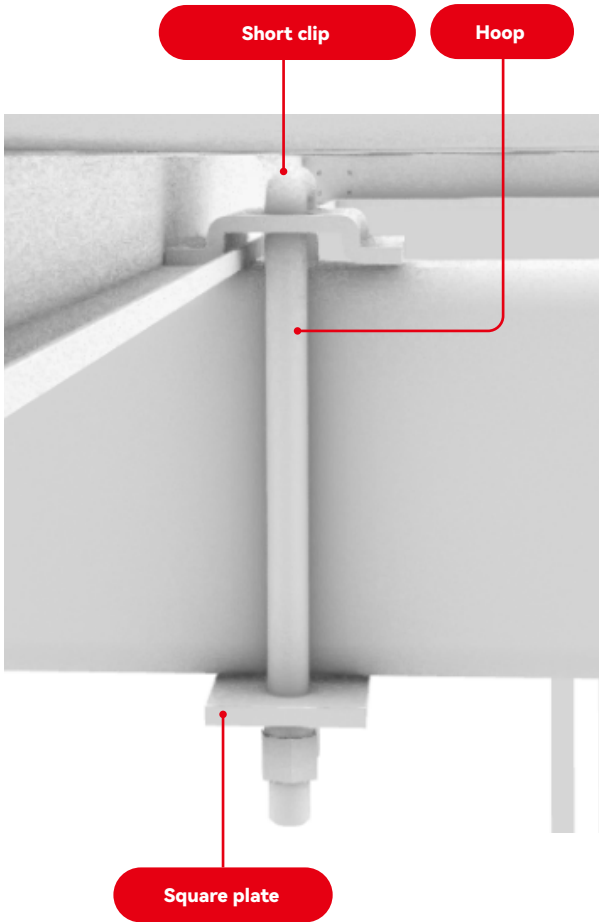
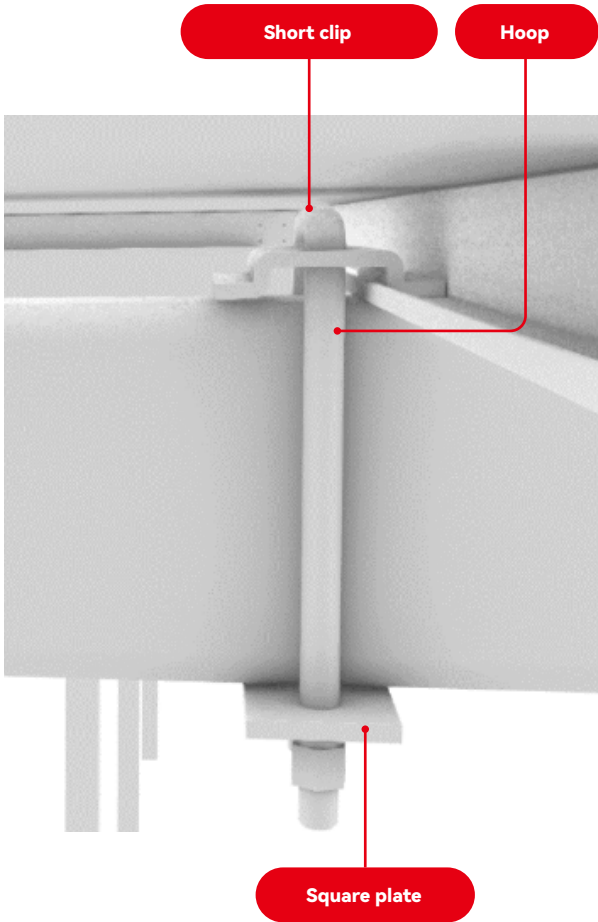

FIGURE 11
FIGURE 12
- Once the product position is determined, start installing the left-side upper fastener assemblies above the product (as shown in Figure 11). Place the upper fastener assemblies into the groove that contacts the second row of purlins and the product, and place the square plate at the opening of the hoop. Tighten the nut to fix the assembly onto the purlin. Similarly, install the right-side upper fastener assemblies (as shown in Figure 12).